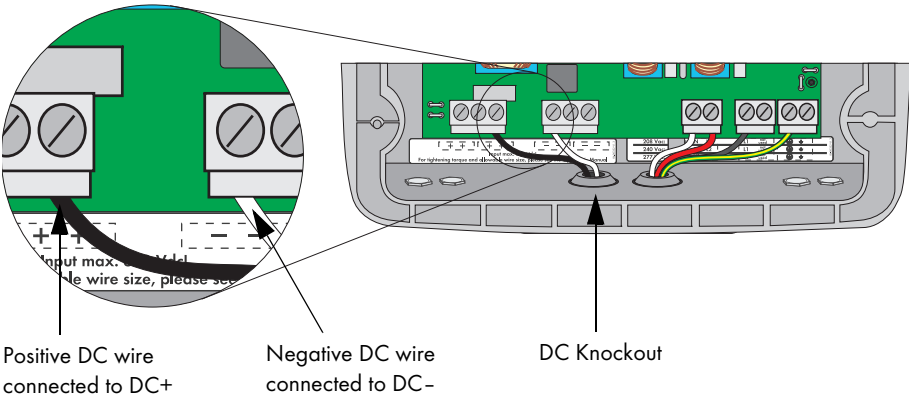

Figure 5-15: DC Connection Terminals
3. Install a 3/4-inch conduit fitting in the Sunny Boy's DC wiring knockout. The DC knockout is the left one of the two large openings in the center on the bottom of the Sunny Boy, as shown in Figure 5-1 and Figure 5-15. Fasten the conduit fitting on the inside of the Sunny Boy with the appropriate locknut.
5. Refer to Figure 5-15 for steps 6 through 8.